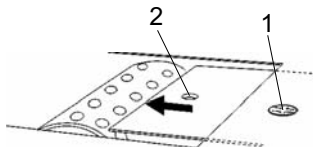

Fig. 7 Pull out cover plate
1. Loosen the screw (Fig. 7/1).
2. Insert a screw driver in the hole (Fig. 7/2).
4. Tighten the screw (Fig. 7/1).